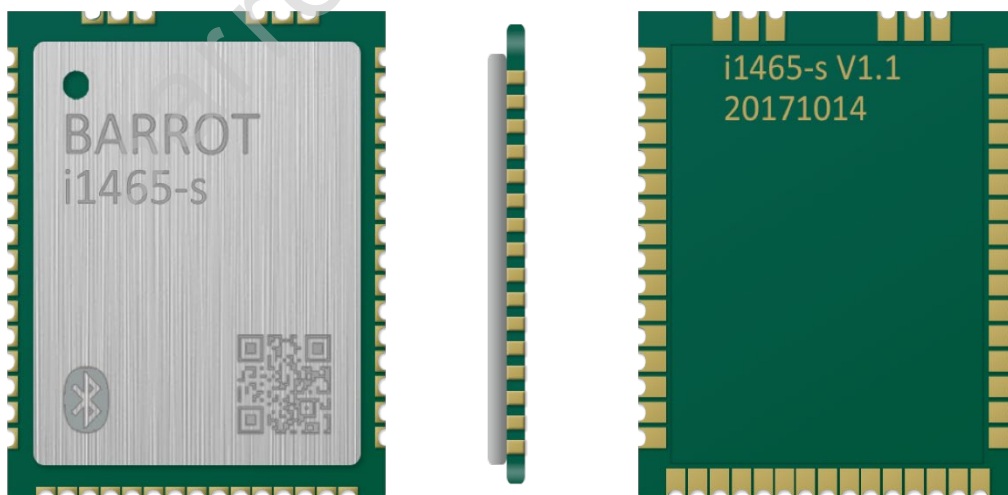

Figure 1 LCC package 3D view
- 1) LCC package, similar to IC LCC package, refer to Figure 1 below.